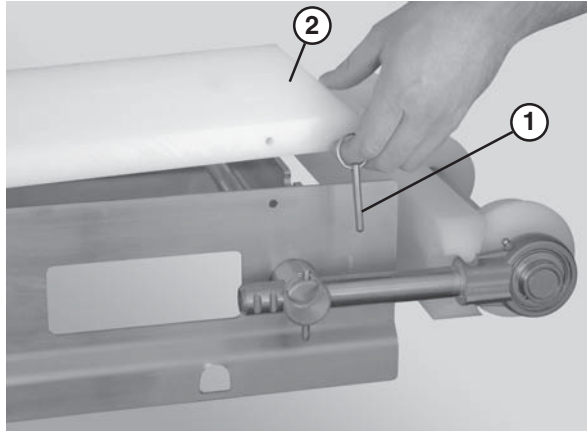

Figure 36
1. Remove the guides, if applicable, by removing the pull pins (**Figure 36, item 1**) that connect the guide (**Figure 36, item 2**) to the frame.